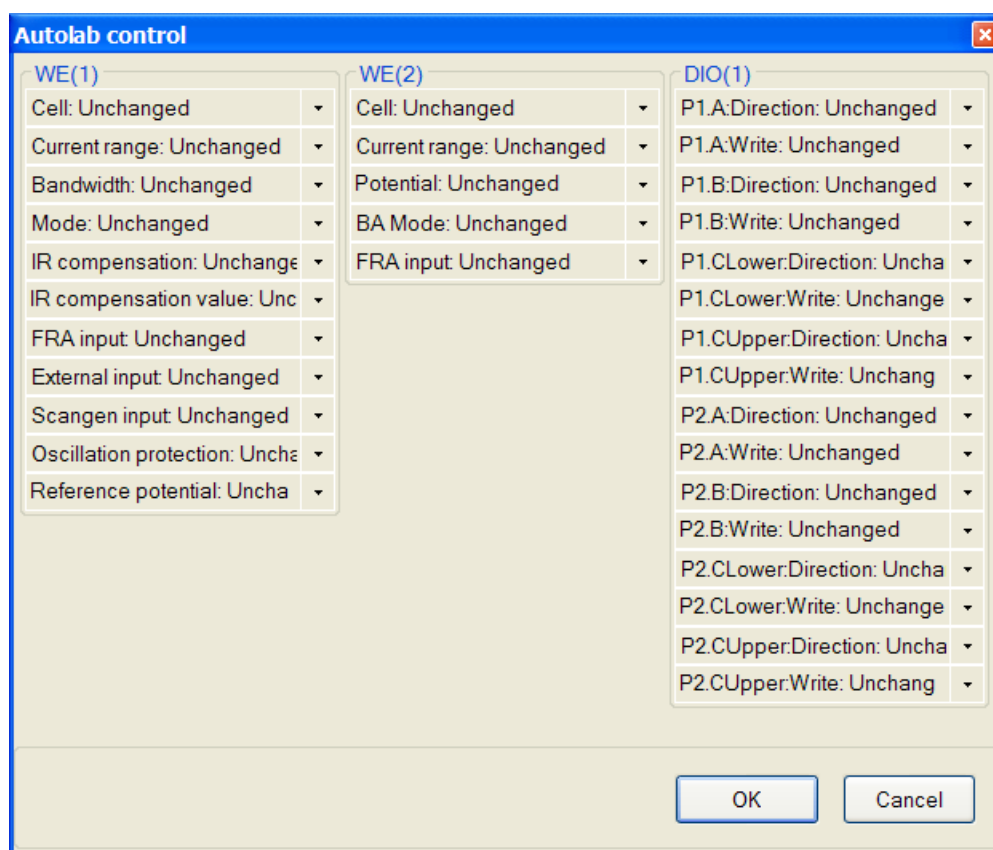

Figure 300 – A typical Autolab control interface window
Figure 300 shows a typical view of the Autolab control interface. For each hardware module with manual settings, a list of items are available (in Figure 300, the settings for WE(1), WE(2) and DIO are available).